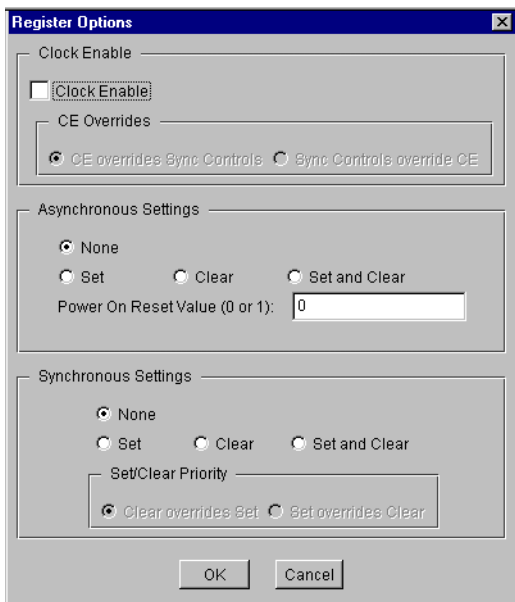

Figure 2: Gate Bit Register Options Parameterization Screen
- Register Options:** This button is only enabled when a registered output has been requested via the **Output Options**. Clicking on this button brings up the Register Options parameterization screen (see Figure 2).
The Register Options parameterization screen for this module is shown in Figure 2. The parameters are as follows: